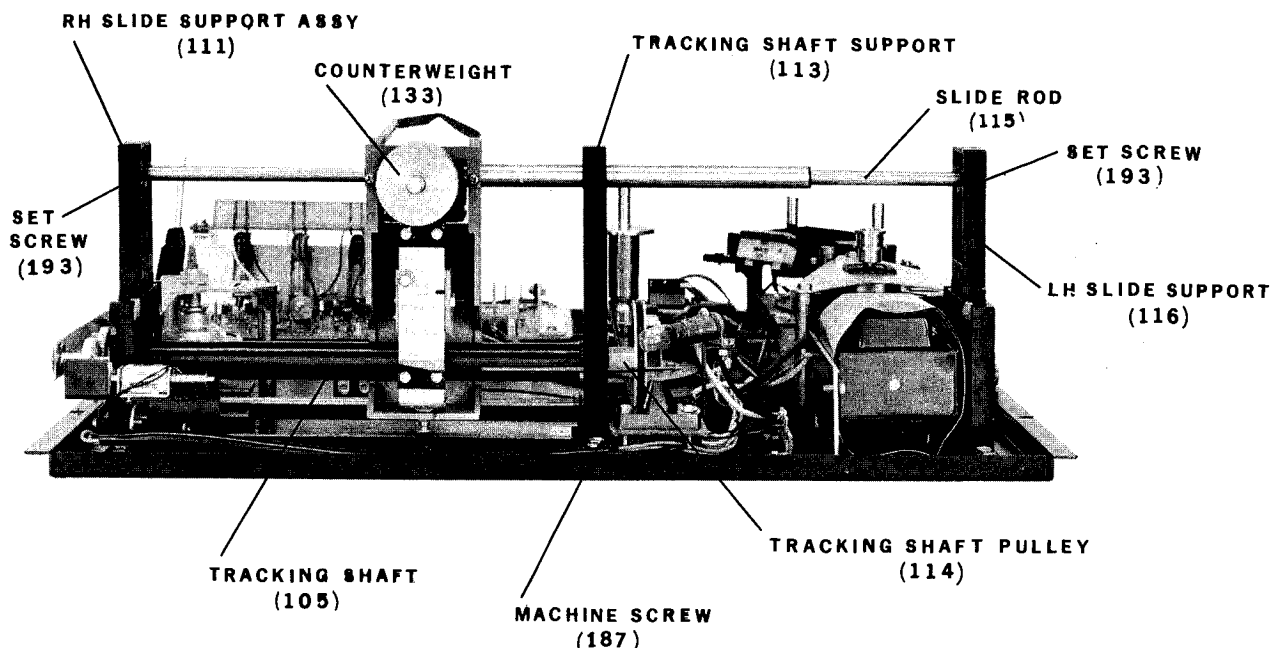

FIGURE 10. CARRIAGE ASSEMBLY REMOVAL
Locate Terminal Strip TB1 on Figure 3. Unsolder five tone arm signal leads (red, green yellow, white, black). Referring to Figures 10 and 11, locate LH cover (11) and RH cover (13). Remove machine screws (12) fastening covers, and remove both covers. Loosen setscrews (193) on back of LH and RH slide support assys (111) and (116), and remove slide rod (115). Loosen two setscrews (192) on tracking shaft pulley (114) and remove from tracking shaft (105). Remove two machine screws anchoring tracking shaft support (113) to base. Carefully slide carriage assembly off tracking shaft (105).